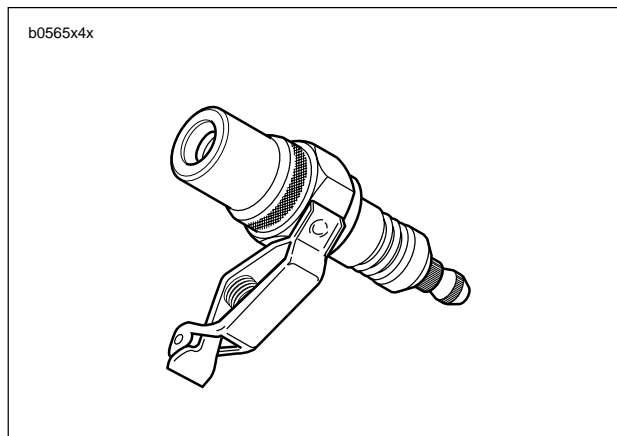

Figure 4-143. Spark Tester (Part No, HD-26792)
1. See Figure 4-143. A SPARK TESTER (Part No. HD-26792) must be used to verify adequate secondary voltage (25,000 volts) at the spark plug.